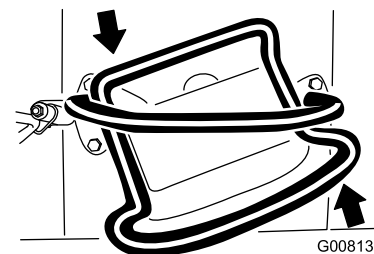

Figure 12
- To turn left, rotate the traction control counterclockwise (Figure 12).